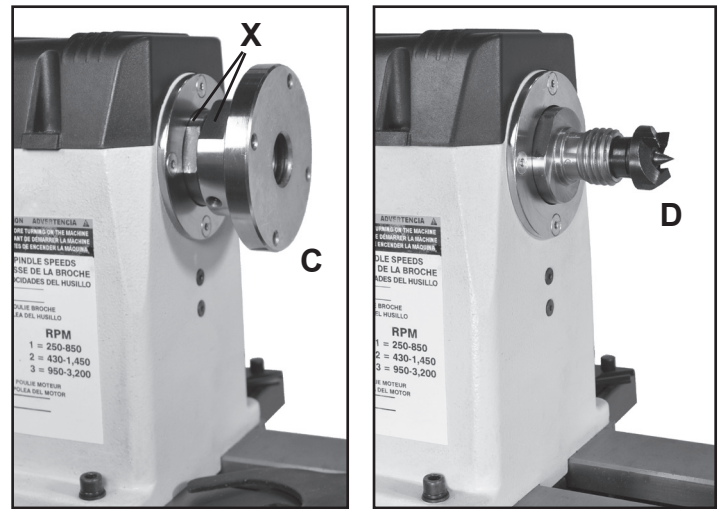

Fig.5.1.2
3. HEADSTOCK FACEPLATE: Faceplates (#22B, FIG. 5.1.2, C) are used for turning bowls and plates. The screw holes in the plate are for mounting the workpiece for turning.
- To remove the faceplate, loosen the set screws. Use the supplied 38mm Wrench on the flat portion of the spindle (FIG. 5.1.2, X) and the 46mm Wrench on flats of the face-plate’s rear hub, then loosen the faceplate from the spindle. Rotate the faceplate counter-clockwise to fully remove it from the spindle.
4. HEADSTOCK SPUR CENTER: The Spur Center (#23B, FIG. 5.1.2, D) is used for turning between centers. It fits into the spindle. Both the spindle and spur center have matching MT-2 tapers. The spur center can be removed from the spindle with the long Knockout Bar (K) inserted through the outboard left end of the spindle. NOTE: Be careful and hold the spur center during this process so it does not fly out onto the floor. A short Knockout Bar (L) is supplied to remove the Spur Center’s Center Point, if it needs replacing.